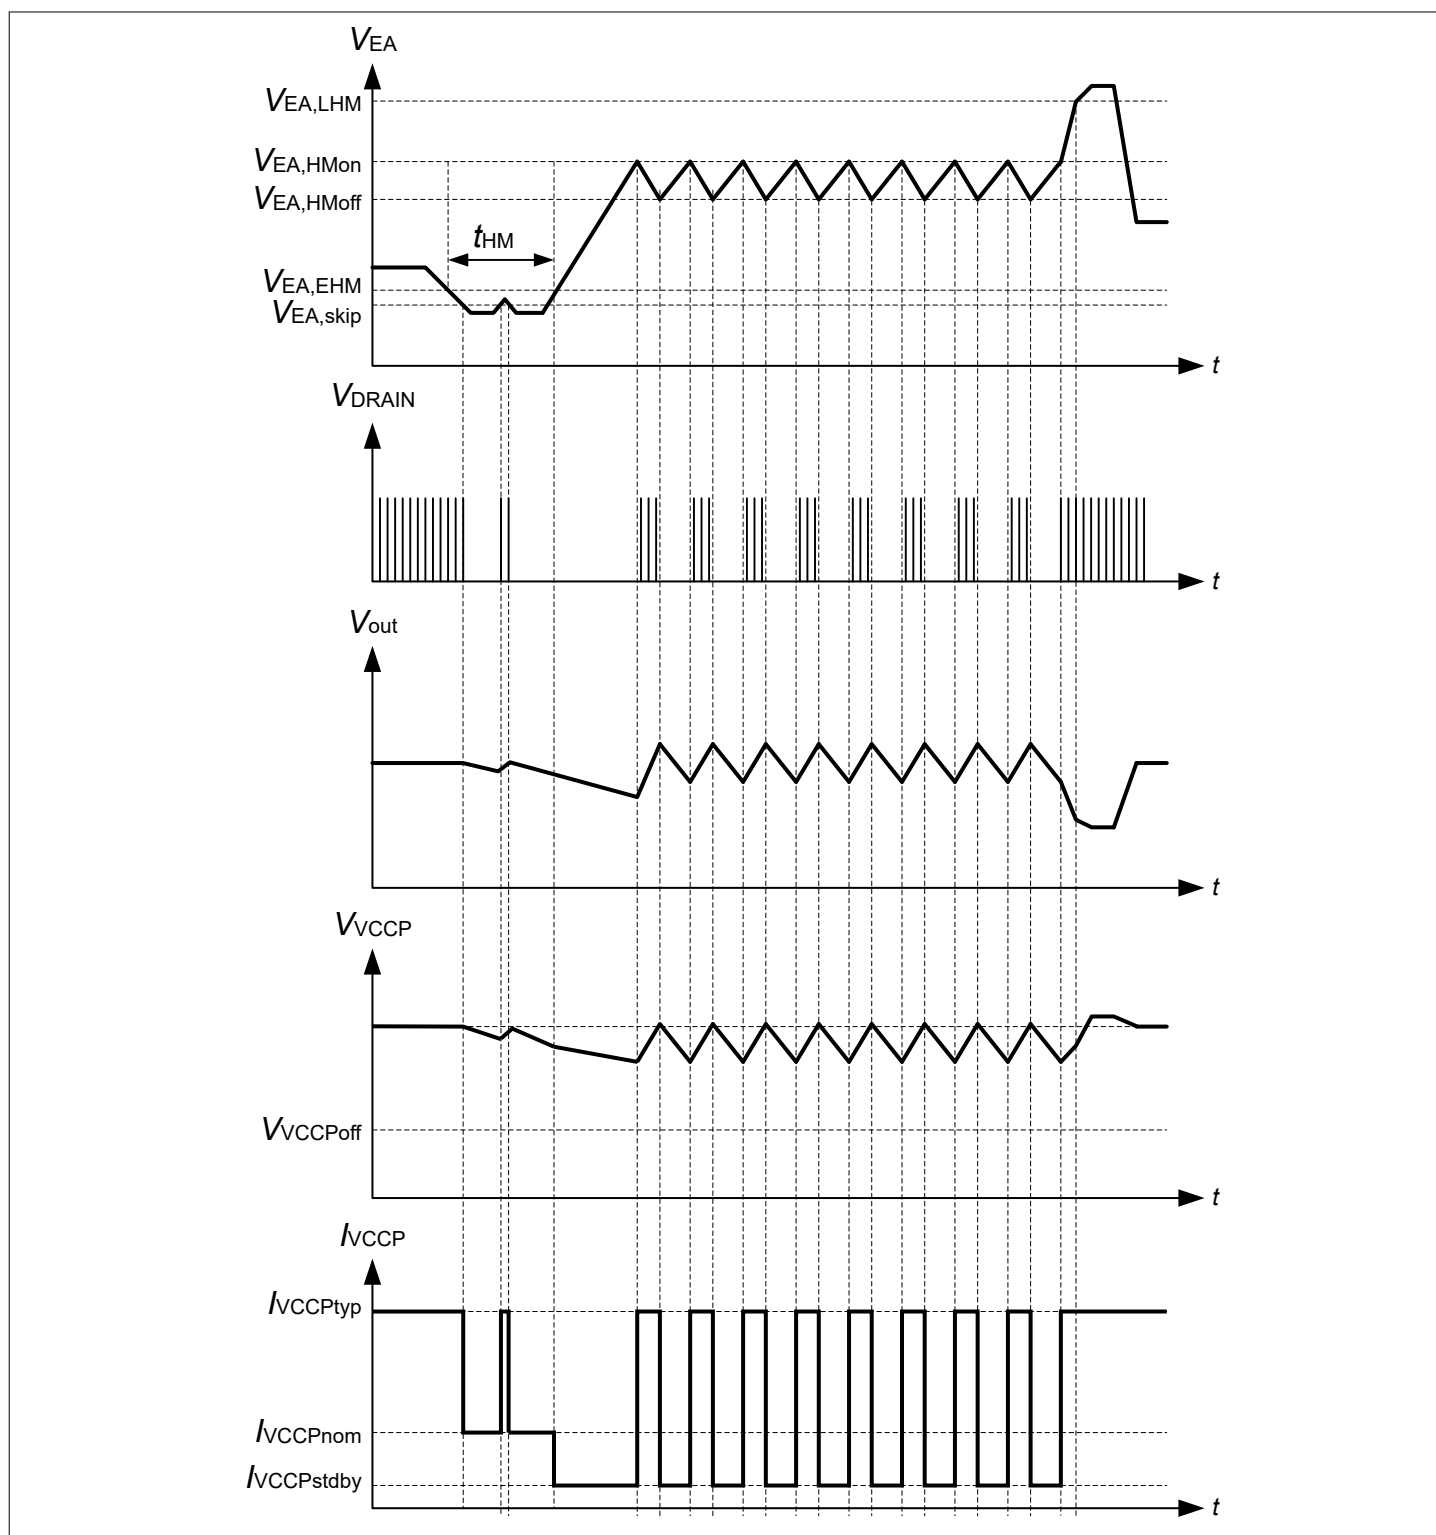

Figure 8 Typical signals for entering, during and exiting hysteretic mode
At continuous light-load condition, the controller enters hysteretic mode (HM) to minimize the average power consumption. The hysteretic mode entry level is targeted for low range of output power. For determination of entering hysteretic mode, three conditions apply (see Figure 8):